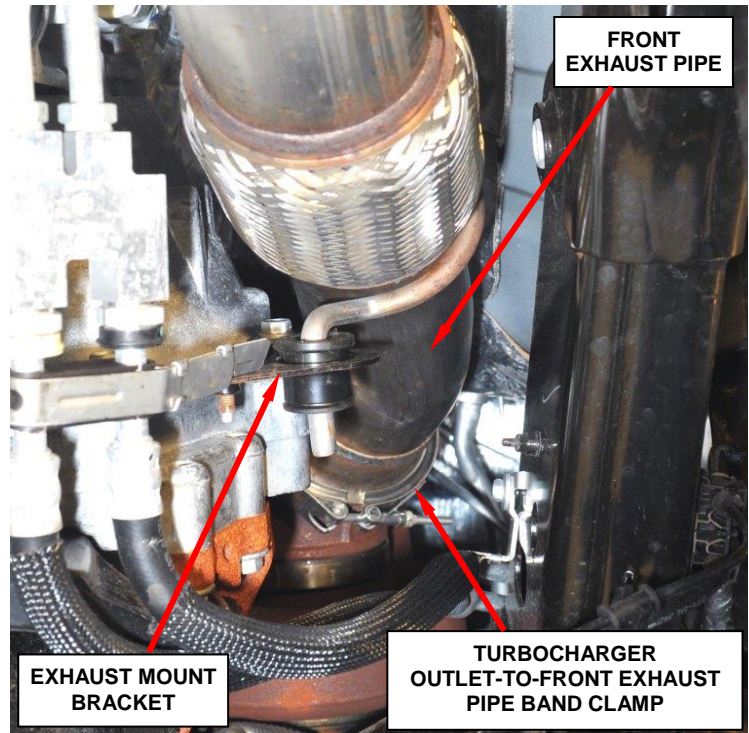

Figure 6 – Turbocharger Outlet-to-Front Exhaust Pipe Band Clamp
a. Disconnect the turbocharger outlet-to-front exhaust pipe band clamp (Figure 6).